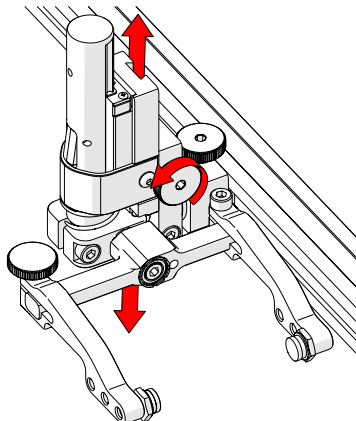

Fig. 90 - Vertical adjustment
2. The vertical adjustment knob allows the vertical probe holder height adjustment (Fig. 90).